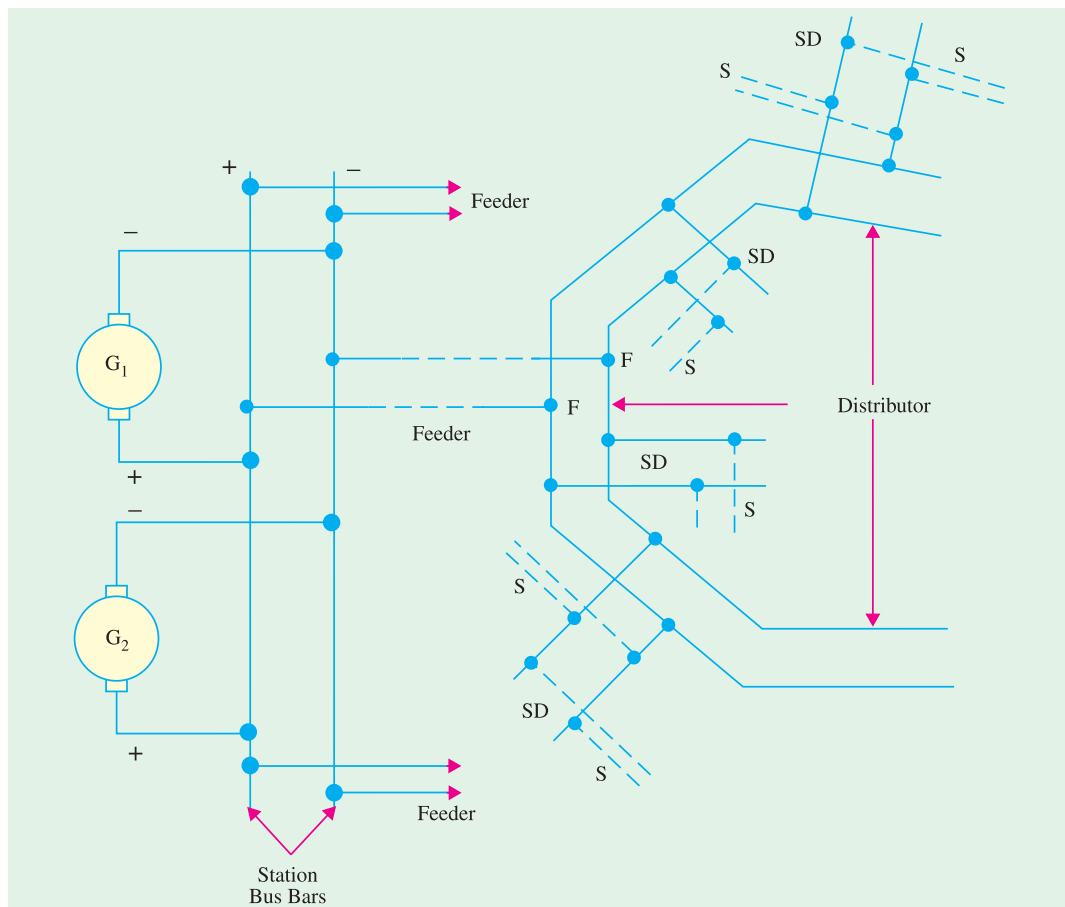

Fig. 40.2
In Fig. 40.2 is shown a schematic diagram of **low tension** distribution system for d.c. power. The whole system consists of a network of cables or conductors which convey power from central station to the consumer's premises. The station bus-bars are fed by a number of generators (only two shown in the figure) running in parallel. From the bus-bars, the power is carried by many **feeders** which radiate to various parts of a city or locality. These feeders deliver power at certain points to a distributor which runs along the various streets. The points **FF**, as shown in the figure, are known as **feeding points**. Power connections to the various consumers are given **from this distributor and not directly from the feeder**. The wires which convey power from the distributor to the consumer's premises are known as **service mains (S)**. Sometimes when there is only one distributor in a locality, several sub-distributors (**SD**) branching off from the distributor are employed and service mains are now connected to them instead of distributor as shown in the figure.